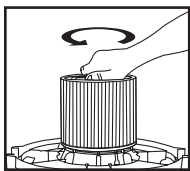

FIGURE 8
14. To remove the filter for cleaning, again hold the tank cover and turn the filter retainer counter-clockwise to loosen and remove. **FIGURE 8.**